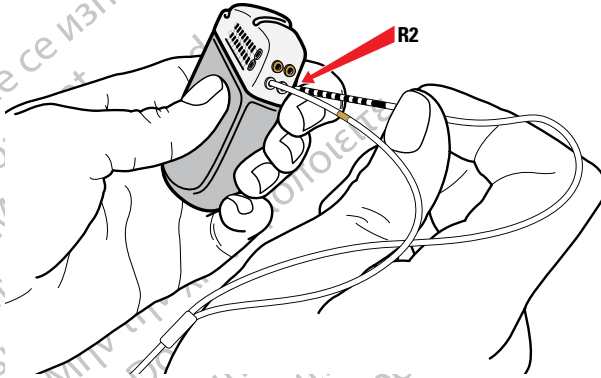

Figure 40. Connection to IPG Port R2
- a. For bifurcated Lead Extension (DB-3128): Connect the tail with no marker band to the port labeled R2 (Figure 40).